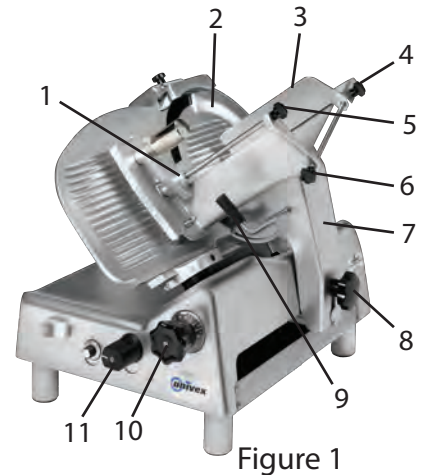
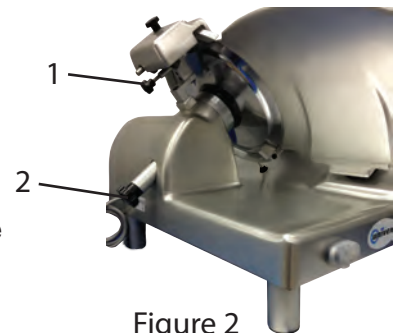

Figure 1
Figure 2
Warning: The protective guard (Overview [5]) covers the knife edge completely except at the forward edge where slicing will be performed. This forward edge is covered by the edge of the fence, but only when the slice adjustment is completely closed. The knife guard (Overview [6]) can be removed for cleaning by unscrewing the knife guard knob (Refer to p.6 Figure 2 [2]). For safety, keep the knife guard on at all times except when cleaning. Never operate the slicer with the knife guard removed.
2. Remove the following items to disassemble the slicer (Figure 1 & 2):
a. Last Slice Device Shaft: Unscrew knob and shaft (Figure 1 [5]) counter-clockwise from carriage and through Last Slice Device (Figure 1 [1]) to remove and set aside.
b. Adjustment Spacer Shaft: First loosen Adjustment Spacer Knob (Figure 1 [4]). Now unscrew the Adjustment Spacer Shaft (Figure 1 [6]) counter-clockwise to remove and set aside. Adjustment Spacer (Figure 1 [3]) can now be removed and set aside.
c. Carriage Arm Handle: Loosen and remove the black handle (Figure 1 [9]) and set aside.
d. Carriage Arm: Loosen the Carriage Arm Knob (Figure 1 [8]) and set aside for cleaning. Pull straight upwards on the Carriage and Arm (Figure 1 [7]) and set the Carriage Assembly aside.
e. Slice Adjustment Knob and Automatic Knob: Remove screws located on front of Slice Adjustment Knob (Figure 1 [10]) and Automatic Knob (Figure 1 [11]) and set aside. Pull knobs forward to remove and set aside (Note the shafts are keyed to ensure correct alignment).
f. Sharpener Assembly: Unscrew sharpener locking pin (Figure 2 [1]) and remove sharpener by pulling upwards. Use caution around blade edge.
g. Blade Guard: Loosen the Blade Guard Knob and shaft (Figure 2 [2]) and remove. Set aside for cleaning. Use the handle on the Blade Guard (Figure 1 [2]) and remove. Be careful when working around the blade edge.
- 3 Adjust the Thickness Control Dial (Figure 1 [12]) to beyond "0". This will ensure that the blade edge is not exposed to the operator.